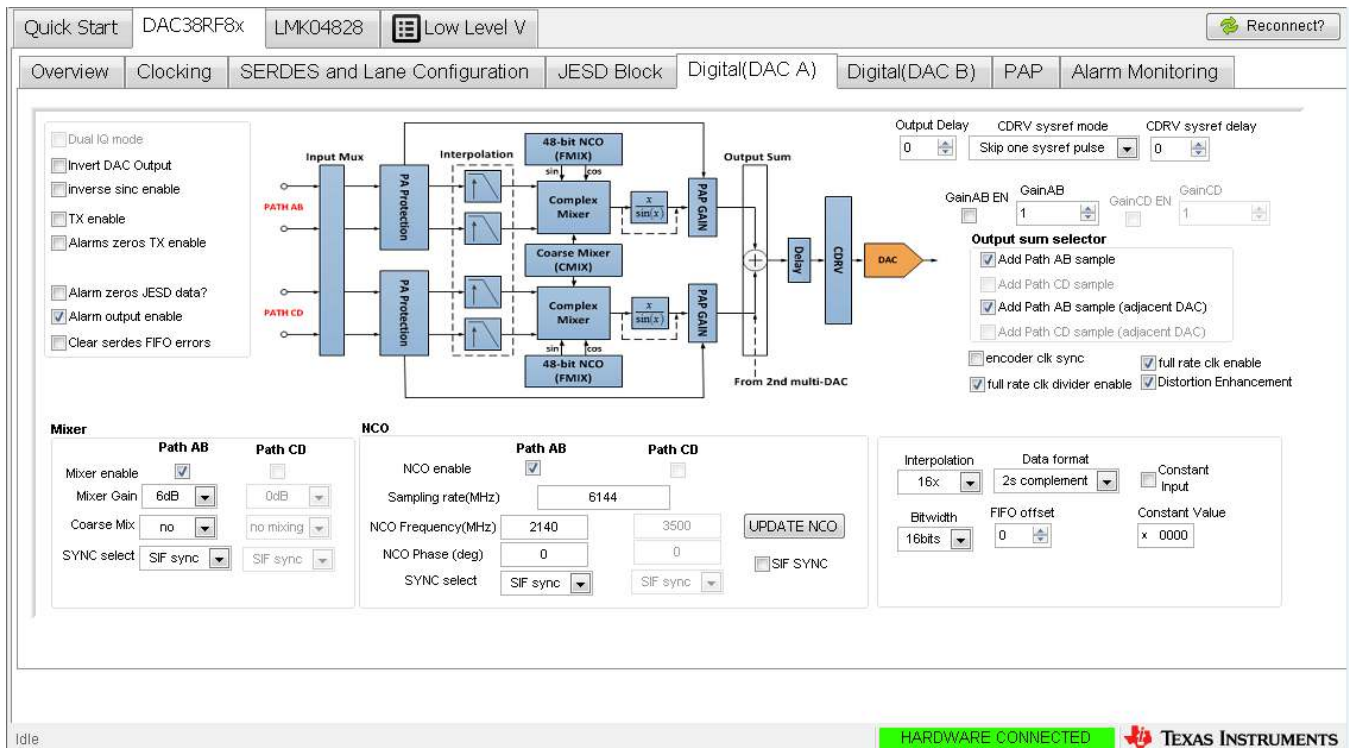

Figure 11. DAC A Digital Control Tab of the DAC38RF8x GUI
10. Navigate to the DAC38RF8x → Digital(DAC A) tab as shown in Figure 11.